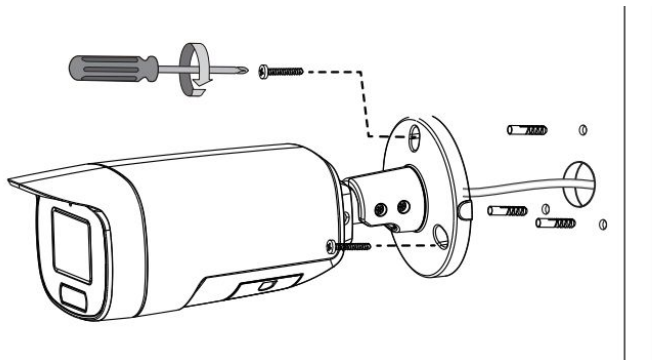

Figure 1-2
Step 2 Install the anchors into the predrilled holes. Align the screw holes of the camera base with the mounting hole sites, and then tighten the mounting screws into the screw holes until they are held firmly. See Figure 1-2.